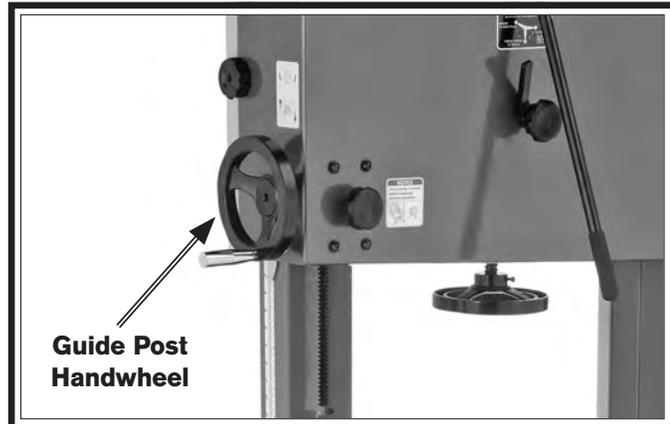

Figure 19. Guide post handwheel installed.
- Slide guide post handwheel (see Figure 19) onto shaft and secure with pre-installed cap screw.